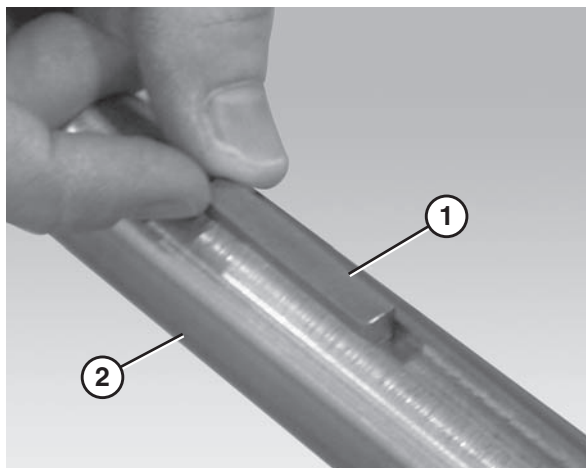

Figure 9
1. Insert the drive spindle key (Figure 9, item 1) into the drive spindle keyway (Figure 9, item 2).